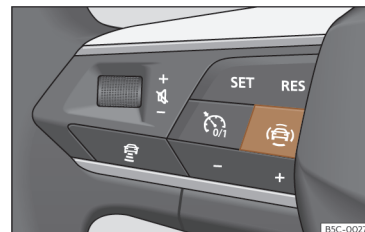

Fig. 63 Left side of the multifunction steering wheel: button for driver assistance systems (depending on versions).
- Press the button **Ⓜ** **>>> Fig. 63** to open the **Aids** menu.